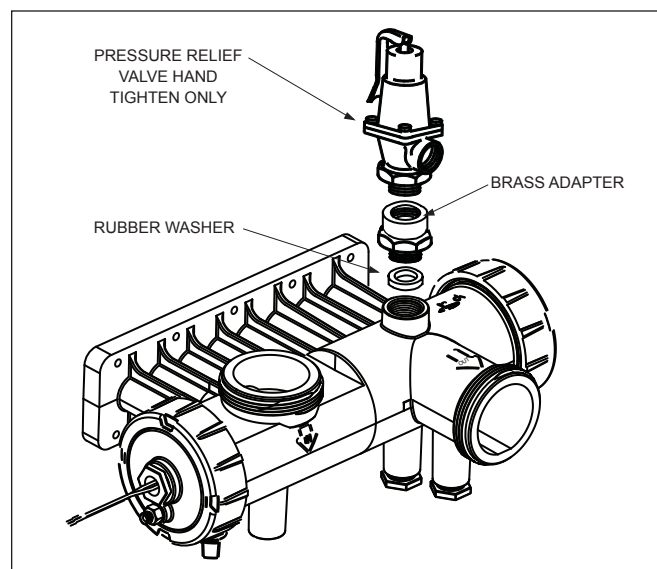

Figure 19. Pressure Relief Valve Installation
6. Install the rubber washer at the bottom of the hole. See Figure 19.
11. Install the adapter on the PRV and tighten using two (2) wrenches. Use the mark made earlier on the adapter to orient the PRV to the desired direction in relation to the water connections on the header.